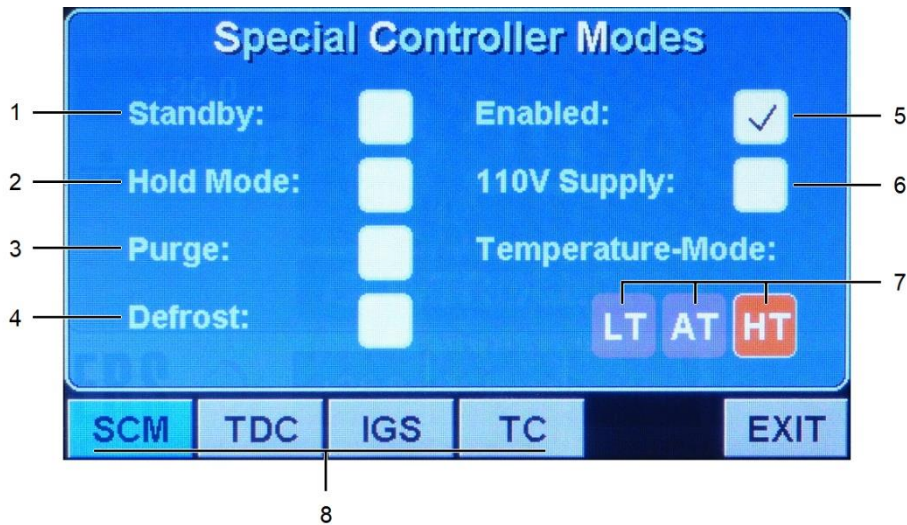

Fig. 4.7 Special Controller Modes screen
- 8 "User Config" opens the Special Controller Modes screen, see Fig 4-7